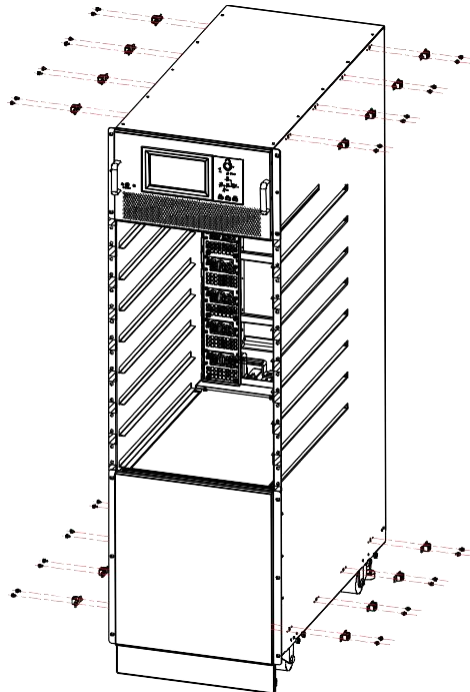

Figure 3-8 Remove bracket for cabinet side door
- Remove bracket for cabinet side door, as Figure 3-8 shows;